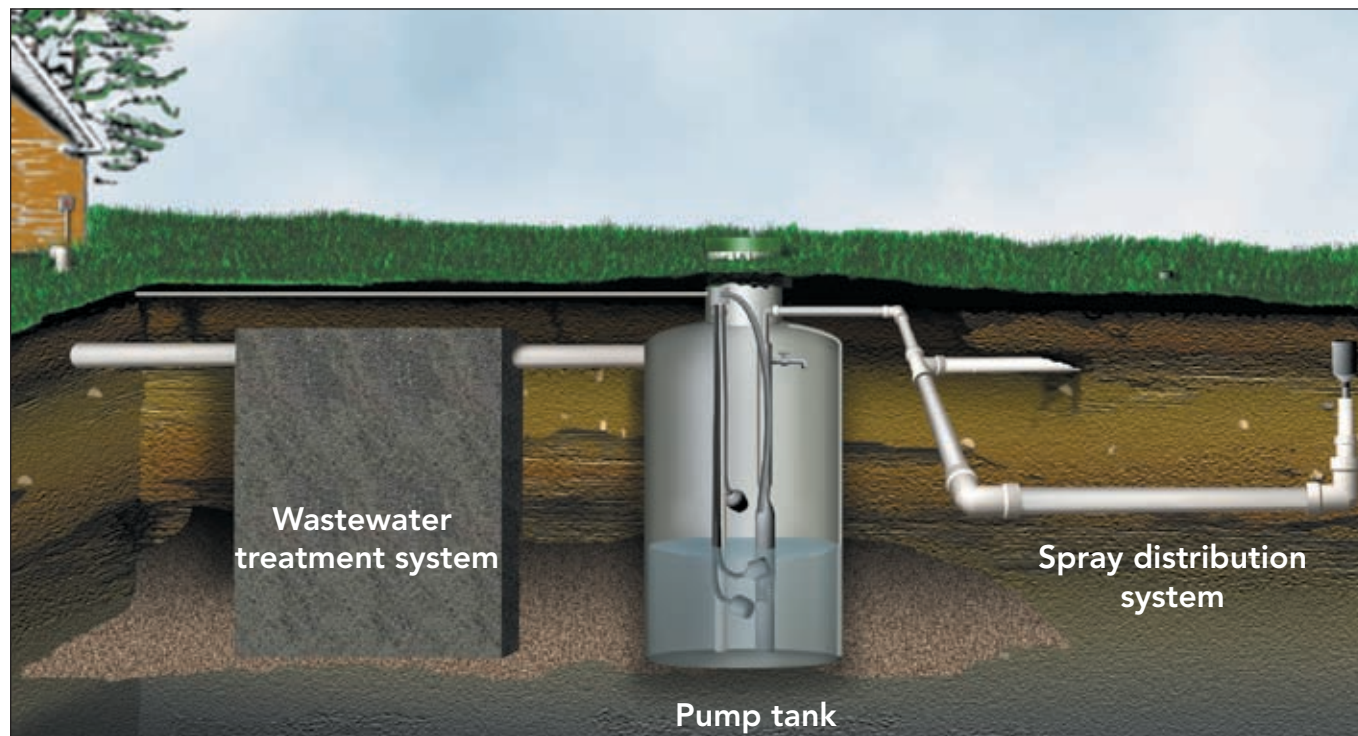

Figure 1: A pump tank collects and doses treated wastewater to the soil at intervals.
**P**ump tanks are concrete, fiberglass, or polyethylene containers that collect wastewater to be dosed into the soil at intervals. Pump tanks are a component of several types of onsite wastewater distribution systems, including low-pressure dosing, subsurface drip distribution, and spray distribution systems. Each of these includes a treatment device, a pump tank, and a distribution system (Fig. 1).